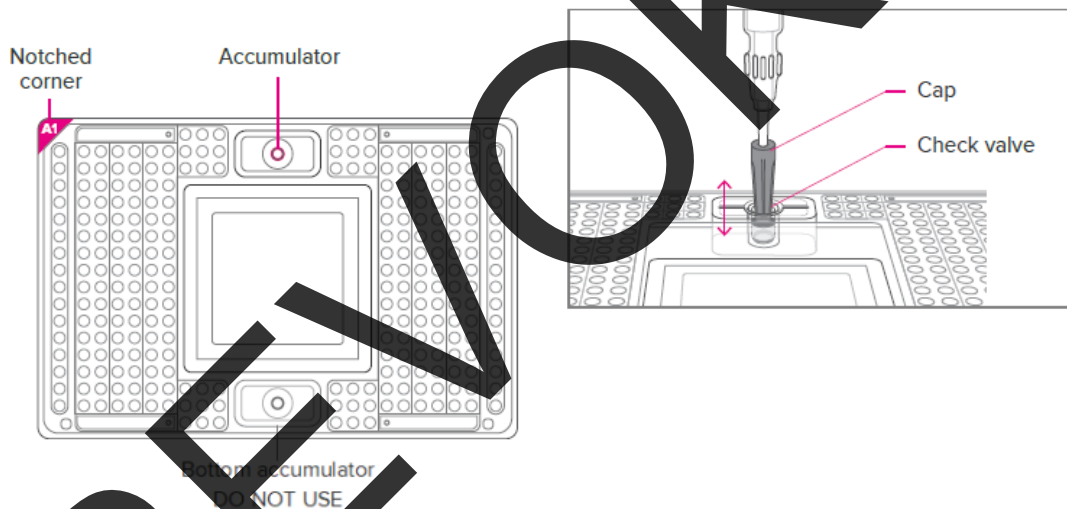

Figure 4. Actuating the check valve in the top accumulator on the 192.24 IFC
- a Then, use the syringe with the shipping cap in place to actuate the check valve in the top accumulator (closest to the notched A1 corner of the IFC) with gentle pressure. Ensure that the poppet can move freely up and down (Figure 4).